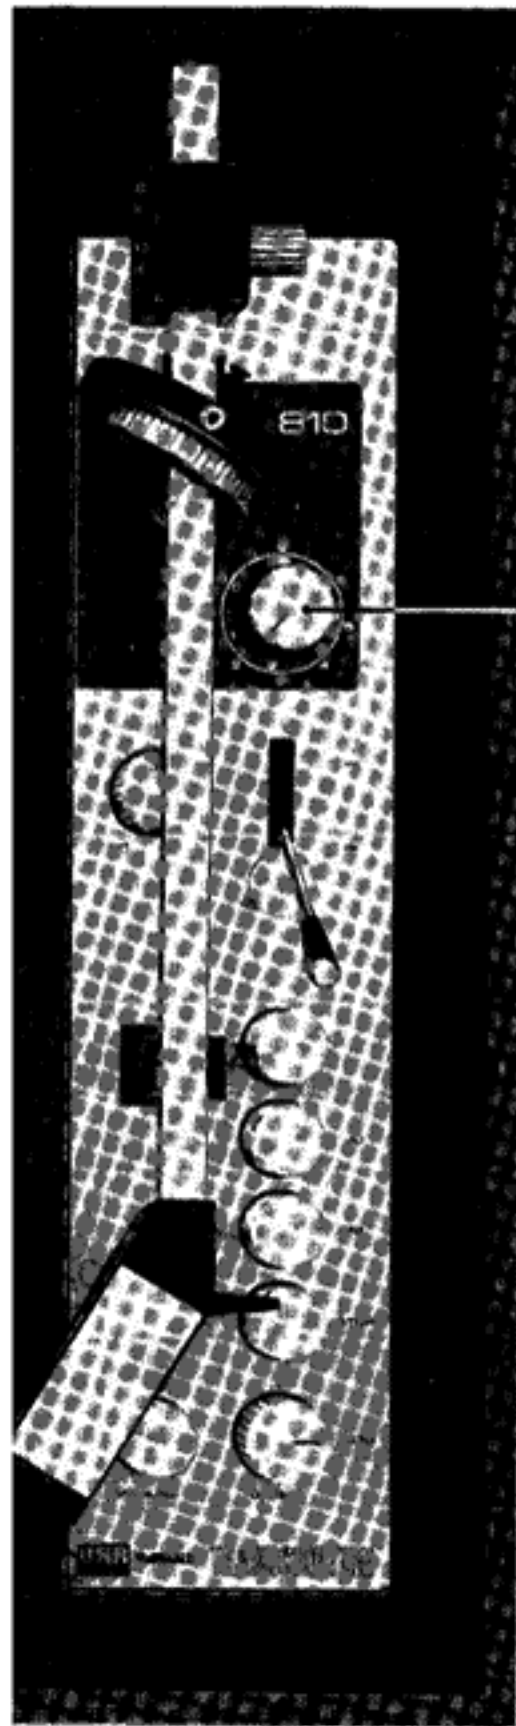

Fig. 11
- Set the anti-skate control to '0' (Fig. 11).
Separate scales are provided for elliptical styli (designated by the symbol ●) and conical styli (designated by the symbol ●). Using the appropriate scale for the type of stylus being used, set the anti-skate control marker (Fig. 11) to coincide with figure corresponding to the stylus pressure applied. The control is continuously variable so that settings between the figures indicated are possible.